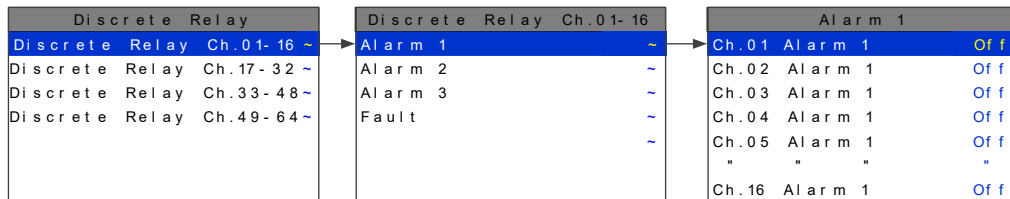

Figure4-2
**DISCRETE RELAYS** allows manual actuation of the connected Discrete Relays while in the Diagnostic mode. Highlight the channel group to be actuated and press . Then select the alarm group and press . These steps bring you to the screen on the right in Figure4-2 and allow the actuation of each relay in the group to be activated individually. LEDs on the Discrete Relay board confirm relay actuation.